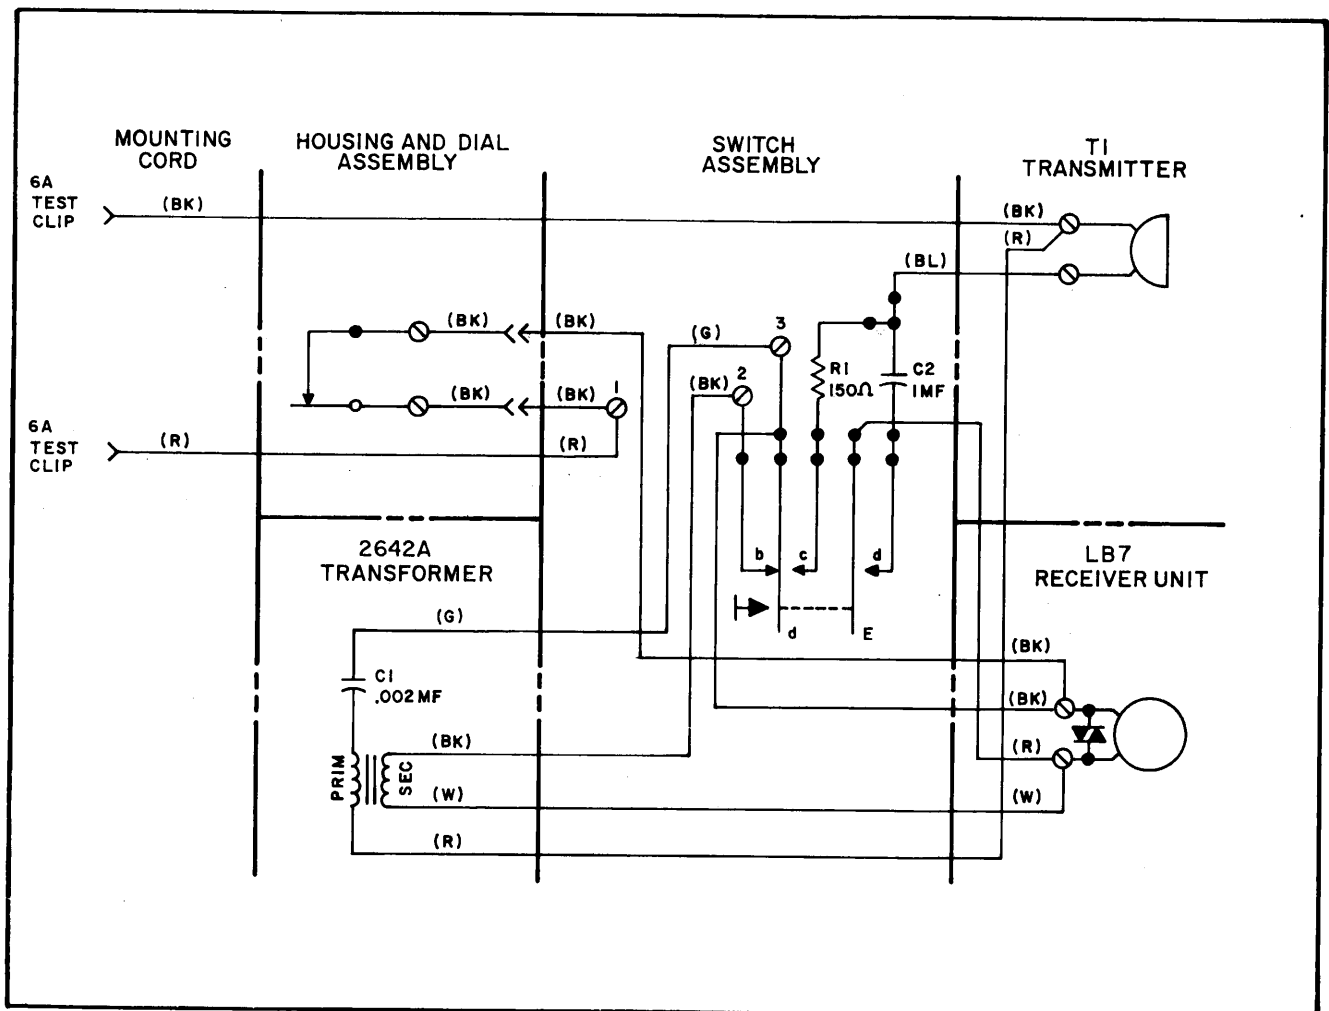

Fig. 3—Schematic of 1013B Handset
3.01 A schematic of the circuit arrangement of this set is shown in Fig. 3.